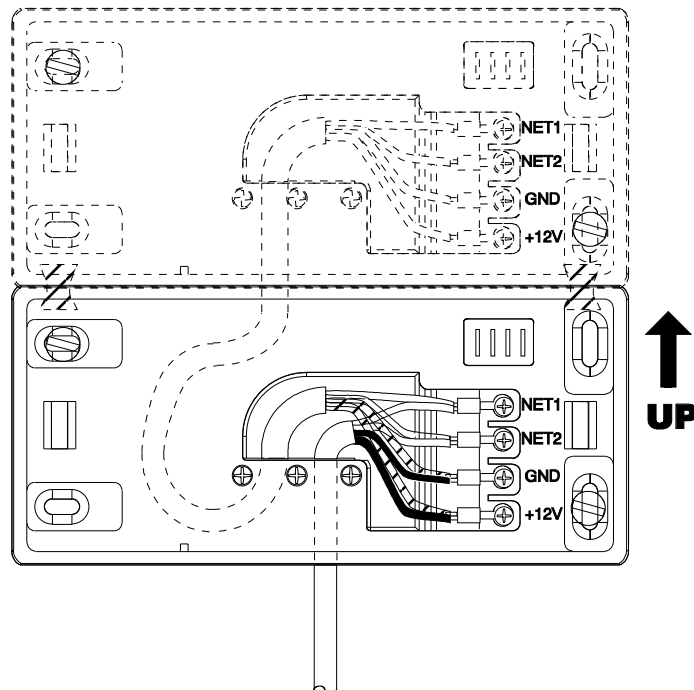

Figure 10: Channeling the cables from the bottom of the box
7. Roll up the terminators of the cables from the wall and the extension cables, and fasten them to the cable crimps (see Figure 10).
8. Fasten the cable crimp to the contacts in the direction shown in Figure 10.